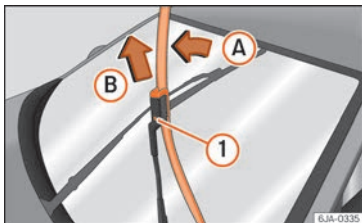

Fig. 70 Windscreen wiper blades.
- Lift the windscreen wiper arm away from the glass moving the blade slightly in the direction of the arm – arrow (A) »» Fig. 70.
- Unlock the catch ① with the other hand and remove the blade in the direction of arrow (B).